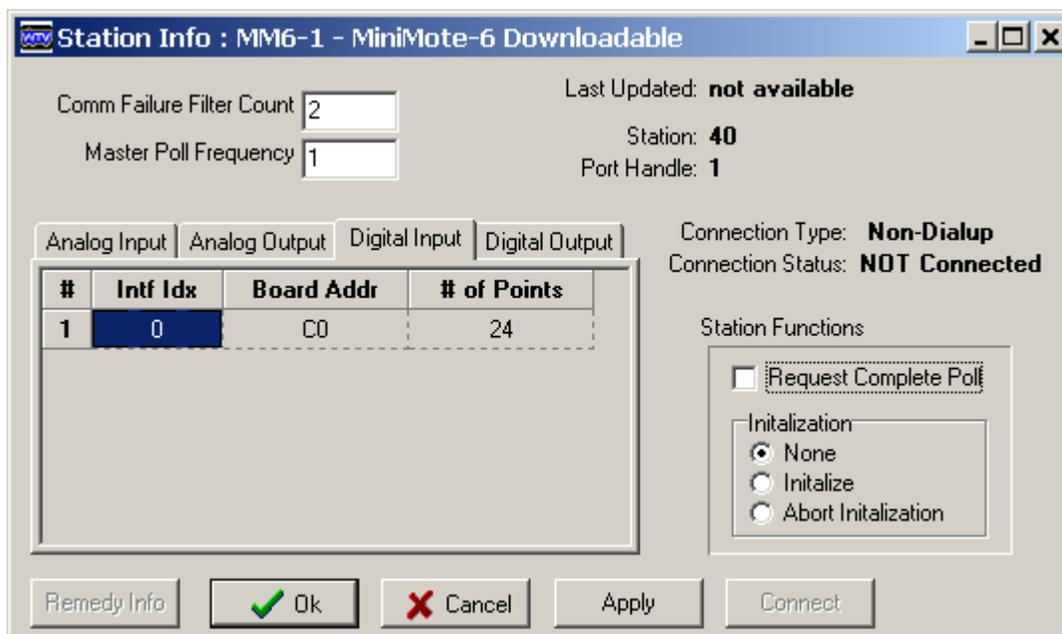

Figure 20. Station Information Window
2. Select the F5- COMM DLG option on the screen. *This may be different on your system; it may read SITE COMM, COMM DLG, or STATION INFO.* The Station Information window appears (Figure 20). The top of this window shows the station name and type. The description below shows details on each parameter displayed in the window.
### Description of Station Information Window - Figure 20